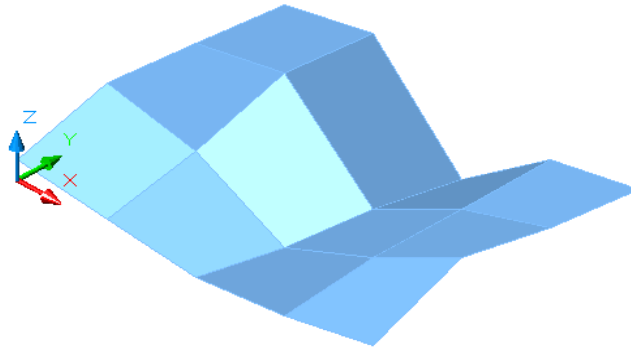

Figure Step 7
Step 7 Turn layer Model off and set the current visual style to: Realistic. Your model should appear similar to the figure. (Figure Step 7)